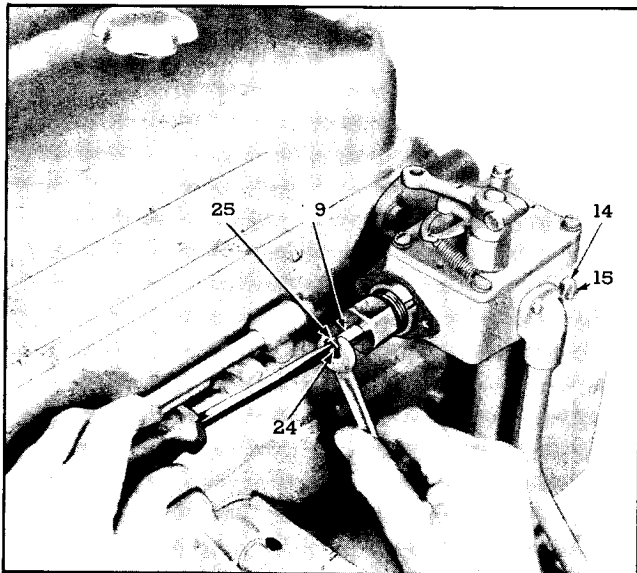

Fig. 7—Adjusting Engine Idle Speed.
- Thread the low speed adjusting screw lock-nut (25) Fig. 7, out to the end of the adjusting screw (24).
- Thread the low speed adjusting screw in until the lock-nut bottoms against the end of the governor spring plunger (9).